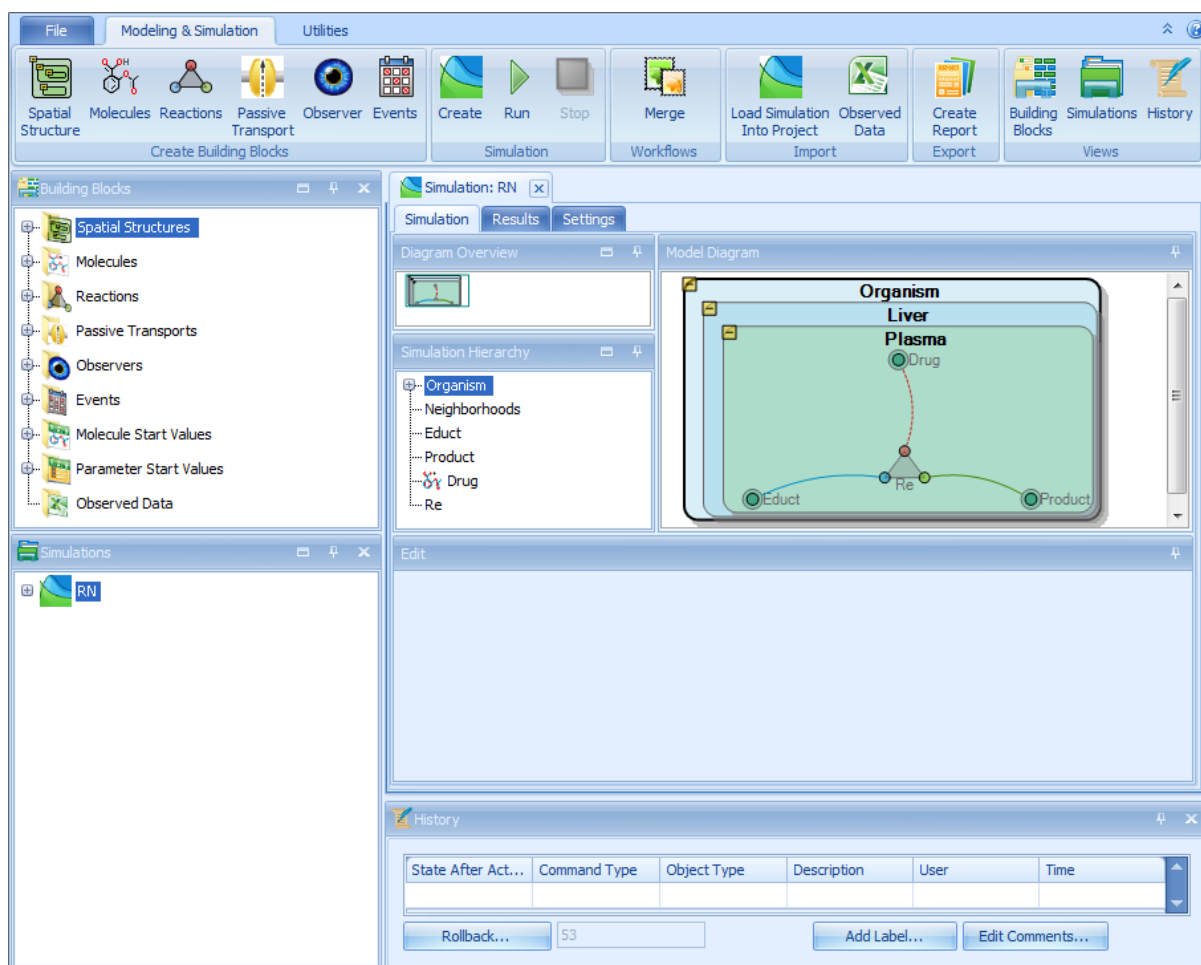

Figure 41.4. Create a Simulation
Step 4: Create a container where the reaction takes place (see Figure 41.4 for overview of the container hierarchy) :
A new simulation "RN" is added to the simulations explorer and automatically opened in edit mode in the main window. Your MoBi® program user interface should now look like depicted in Figure 41.4.